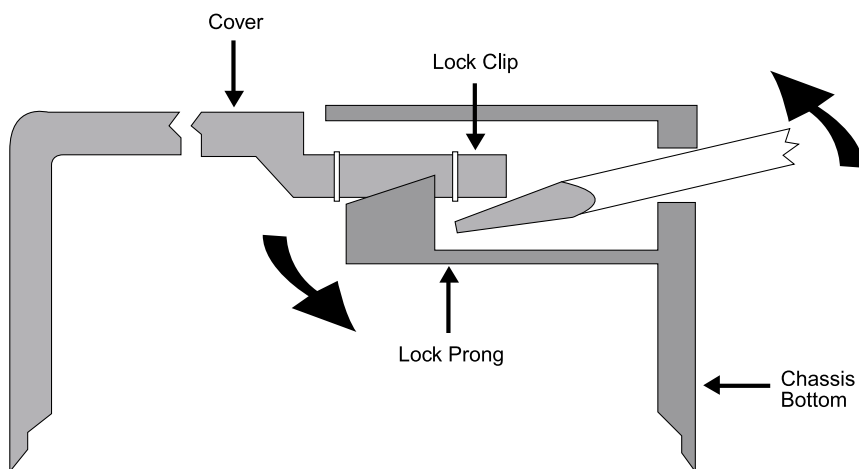

Figure 4-1
- Place the unit on its side on a flat surface. Insert a screwdriver blade in one of the rear latch slots (Figure 4-1).